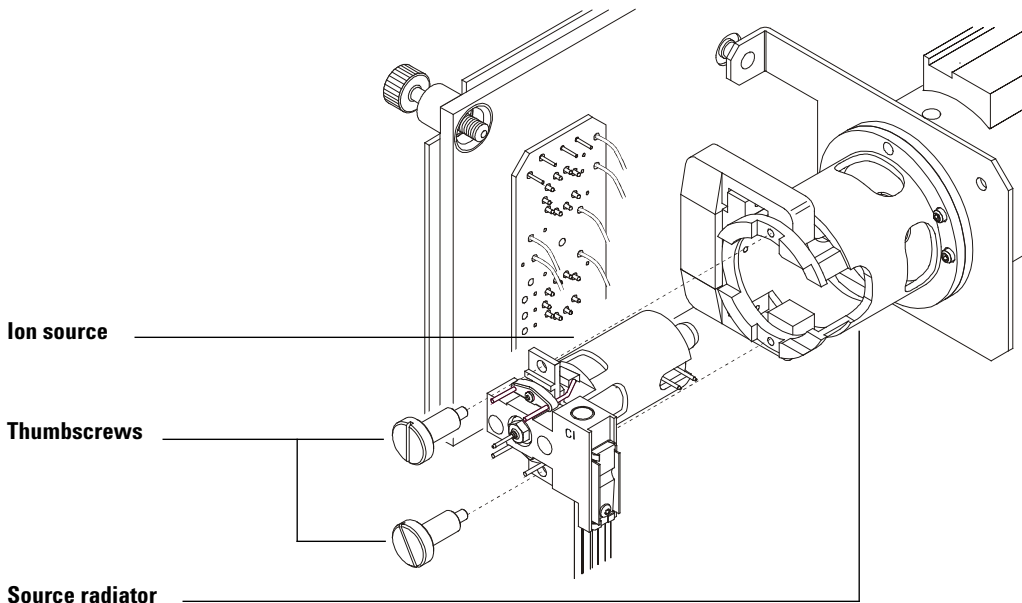

Figure 34 Installing the CI ion source
- 4 Reinstall the thumbscrews (Figure 34).